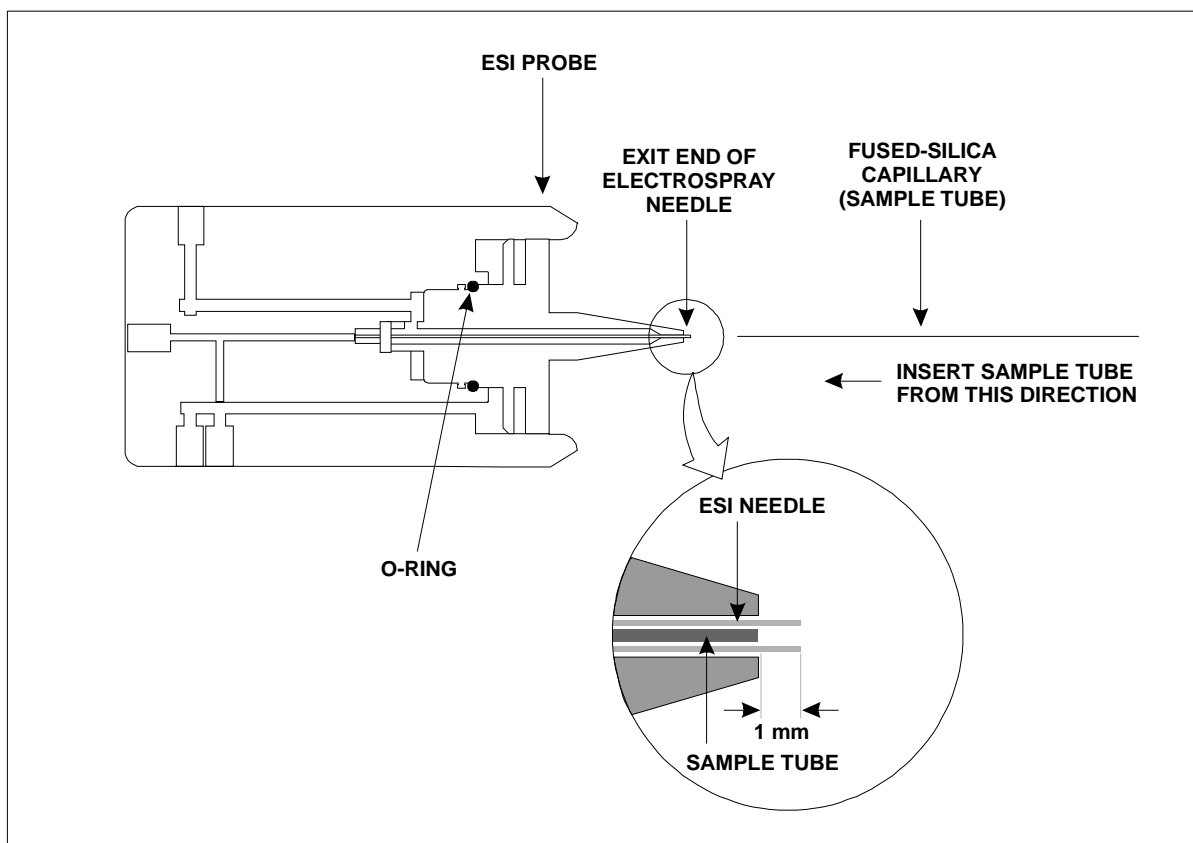

Figure 5-10. Installing the ESI fused-silica sample tube
6. Pull the sample tube backwards until the exit end of the sample tube is recessed just inside the ESI needle by approximately 1 mm. See Figure 5-10.